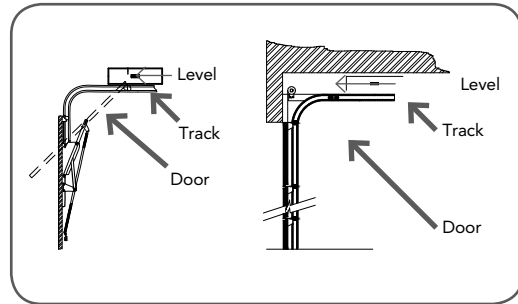

fig 10
- Using a level, transfer this height to the wall above the door (**Fig. 10**) and mark a line 60mm above it.